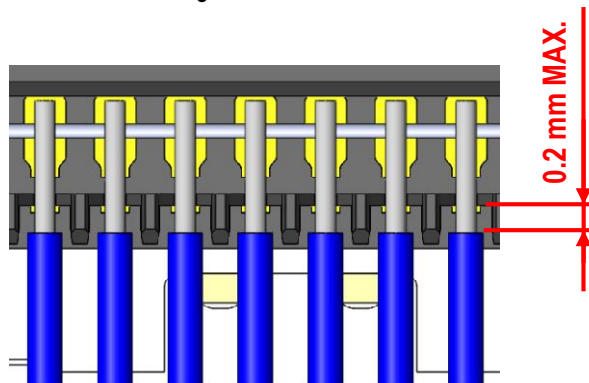

Fig.3 Setting Discrete Wire
④ Set the cable or wire.
*To prevent potential contact between the core wire and the shell during discrete wire setting, ensure that a maximum of 0.2 mm is not exceeded, as illustrated in Figure 3.